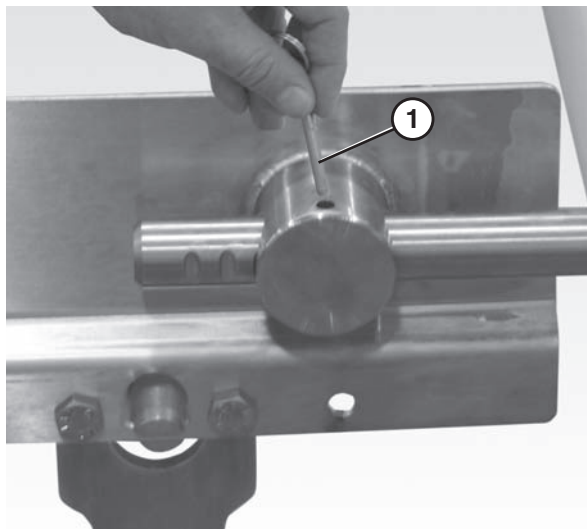

Figure 75
- Remove the pull pins (**Figure 75, item 1**).